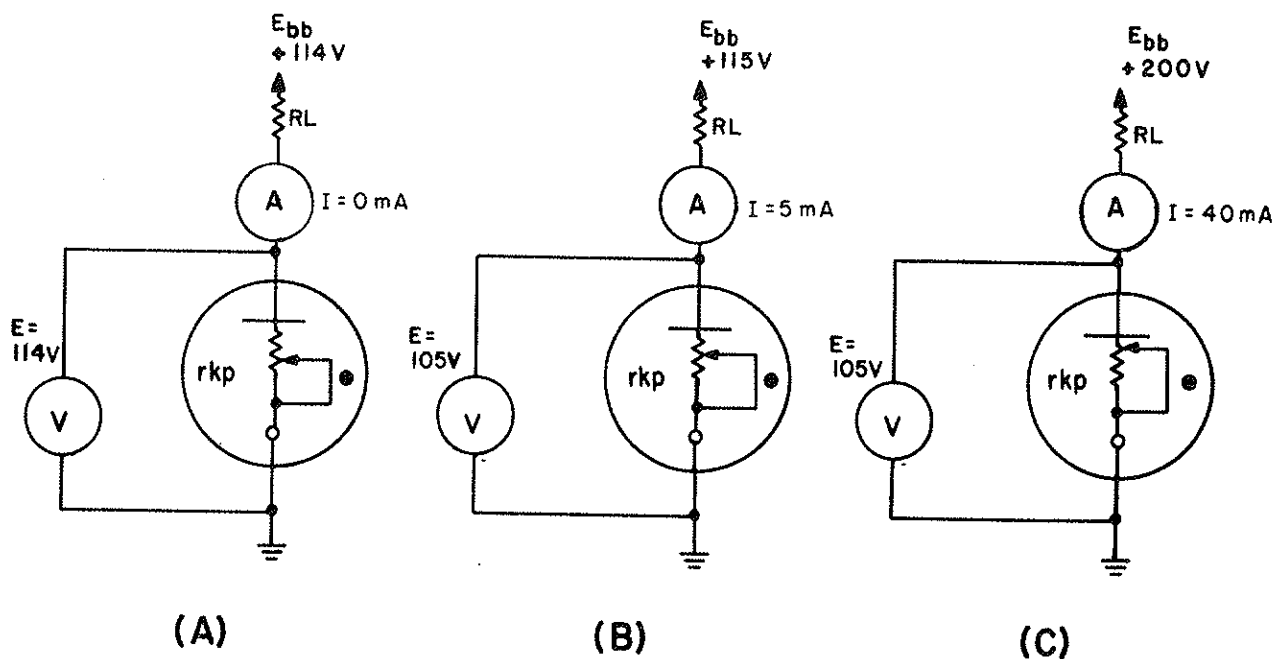

Figure 2-16.—Cold-cathode tube operation.
Examine figure 2-16. Here you see a cold-cathode tube connected to a variable voltage source. The variable resistor  $r_{kp}$  does not exist as a physical component, but is used to represent the resistance between the cathode and plate. Most cold-cathode tubes have a firing point (ionizing voltage) at about 115 volts. Thus, the tube in view (A) of the figure is below the firing point. Because the tube lacks thermionic emission capabilities, no current will flow and the tube will have a resistance ( $r_{kp}$ ) near infinity. The potential difference between the plate and ground under these conditions will be equal to the source ( $E_{bb}$ ) voltage, as shown on the voltmeter.